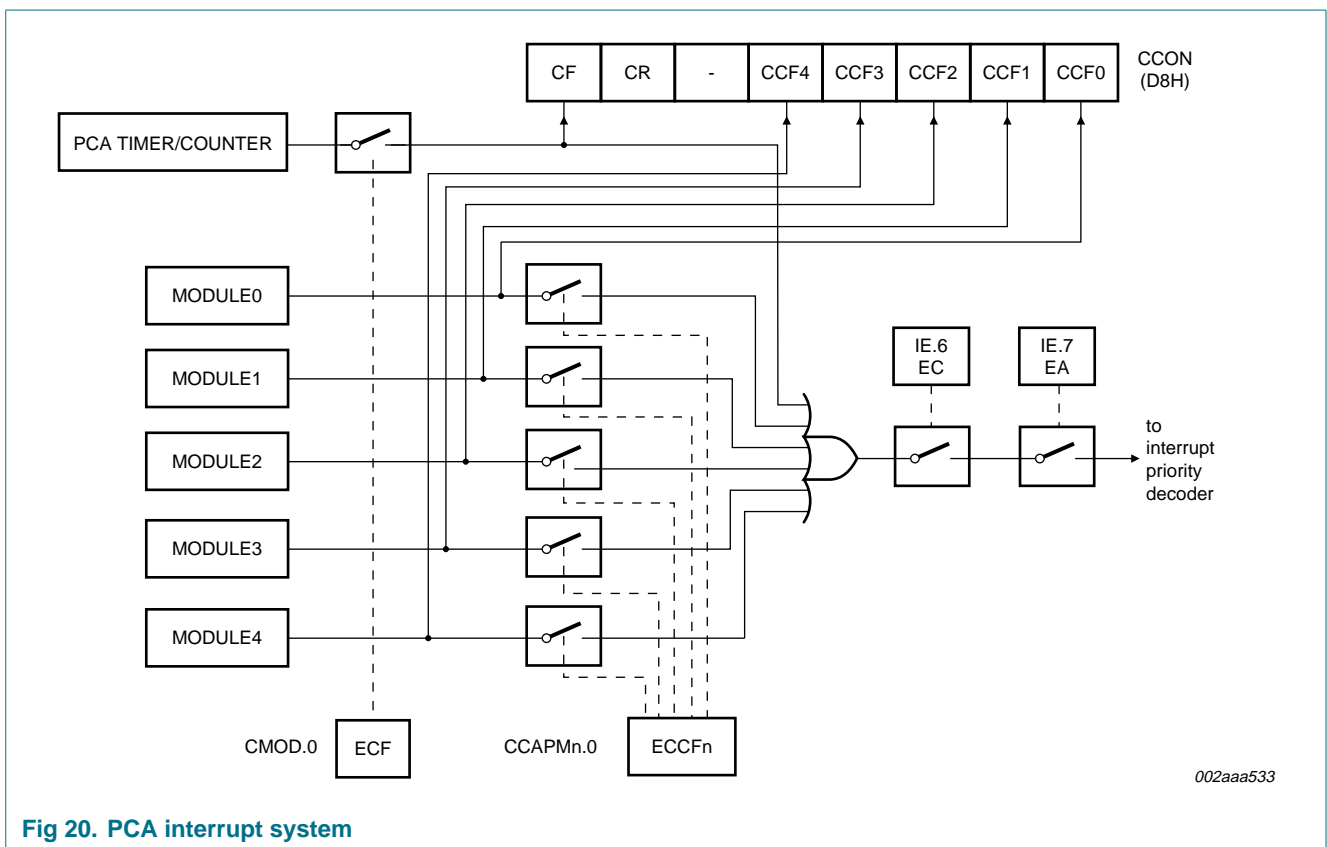

Fig 20. PCA interrupt system
The CCON SFR contains the run control bit for the PCA (CR) and the flags for the PCA timer (CF) and each module (CCF[4:0]). To run the PCA the CR bit (CCON.6) must be set by software. The PCA is shut off by clearing this bit. The CF bit (CCON.7) is set when the PCA counter overflows and an interrupt will be generated if the ECF bit in the CMOD register is set. The CF bit can only be cleared by software. Bits 0 through 4 of the CCON register are the flags for the modules (bit 0 for module 0, bit 1 for module 1, etc.) and are set by hardware when either a match or a capture occurs. These flags can only be cleared by software. All the modules share one interrupt vector. The PCA interrupt system is shown in Figure 20.
The ECCF bit (from CCAPMn.0 where n = 0, 1, 2, 3, or 4 depending on the module) enables the CCFn flag in the CCON SFR to generate an interrupt when a match or compare occurs in the associated module; see Figure 20.